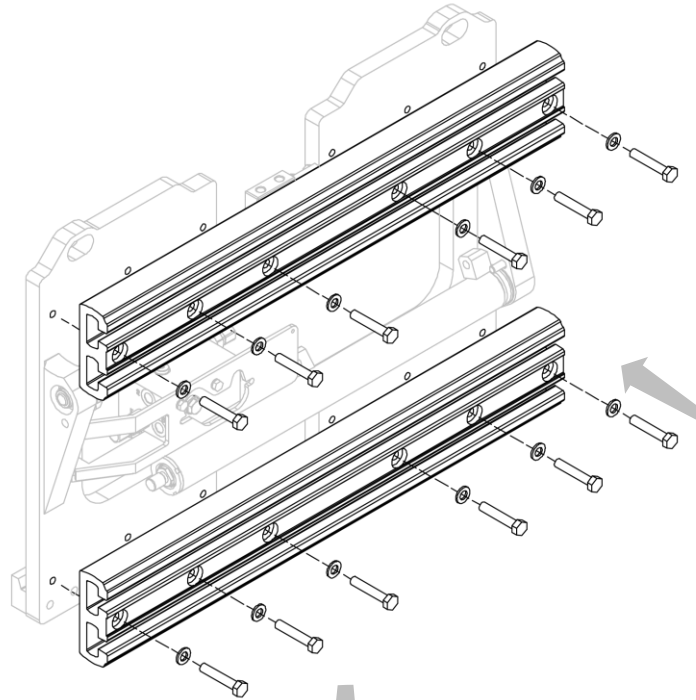
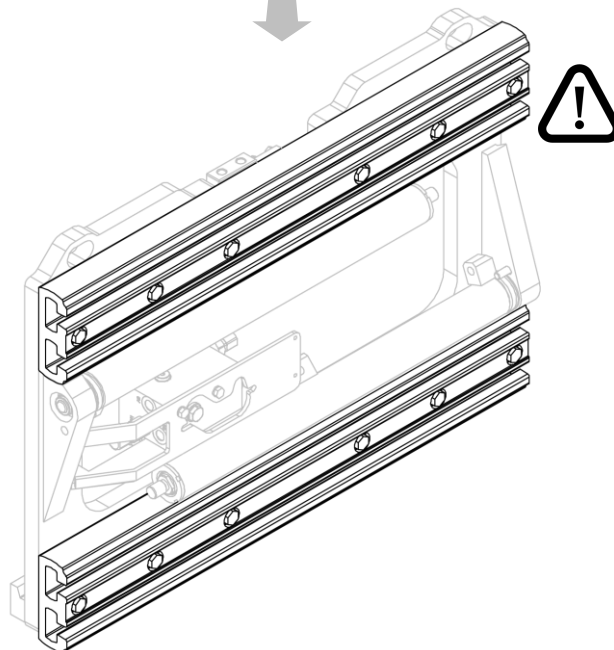

Figure 11
Figure 12
2. Install the aluminium profiles one at a time, using the bolts provided (see *Figure 11* and *Figure 12*).